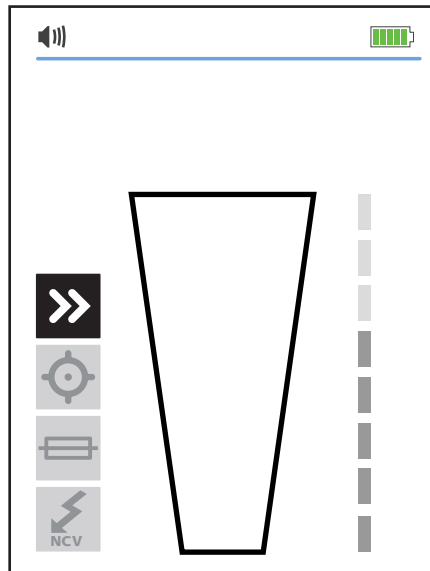
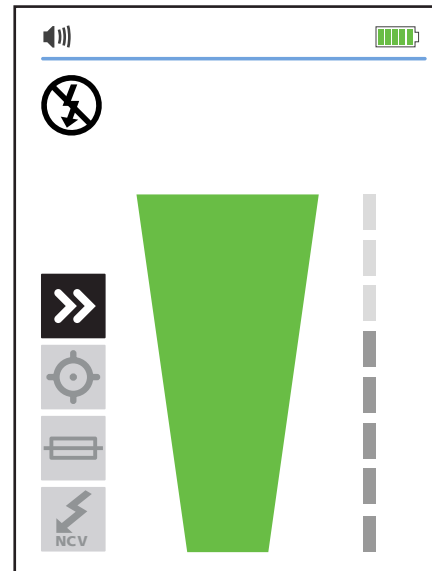

Figure 3.1c: Signal not detected
Figure 3.1d: Signal detected
3. For best results while tracing Energized wires, align groove on the Tip Sensor with wire direction as shown in Figure 3.1c and Figure 3.1d. Signal may be not detected if not properly aligned. To verify wire direction, periodically rotate the Receiver 90 degrees. Signal strength will be the highest when wire is aligned with the Tip Sensor groove. Depending on the detected signal, the Receiver automatically switches to either Energized ⚡ or De-energized ⚡ mode, and displays this information on the LCD. No manual setup is necessary.